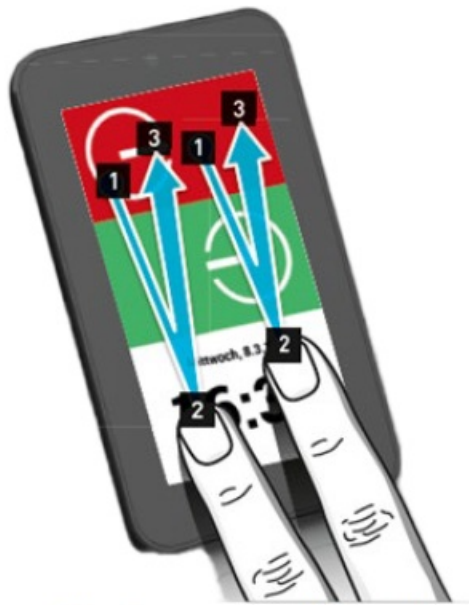

Fig. 8 - exemplary illustration
1. Place two fingers (preferably your index and middle fingers) in the position shown in the illustration below (Fig. 8), and swipe with both fingers down into the white date/time field.